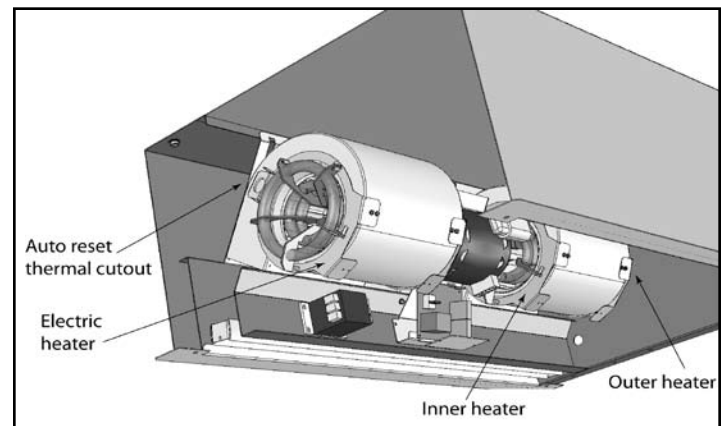

Figure 7
5. If the unit has electric heat, the heaters need to be disconnected from supply wiring. Each fan housing will have a heating element on both of its sides, spanning the inlet venturi. Each heating element will have (2) ¼" quick disconnects for power supply wiring. In addition, the heating elements located on the outside of the module will have (2) ¼" quick disconnects for the auto reset thermal cutouts. Label and separate all of those connections. **See Figure 7.**
6. Using a 5/16" hex driver, loosen and remove the (4) self drilling screws that hold the blower plate to the frame of the unit. Remove the two screws at the top of the product last, as after they are removed, the module will be